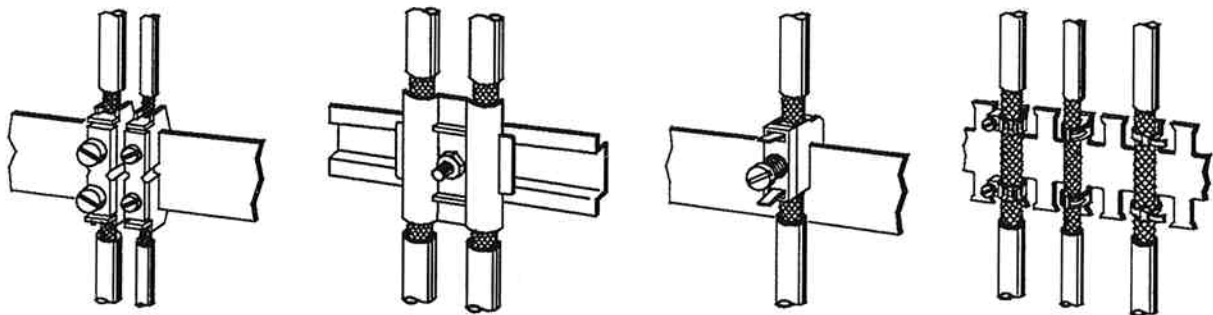

Figure 3-2. Examples of Securing Shielded Lines with Cable Clamps
- Use metal cable clamps for securing the braided shield. The clamps must enclose the shield over a large area and provide a good contact (see Figure 3-2).